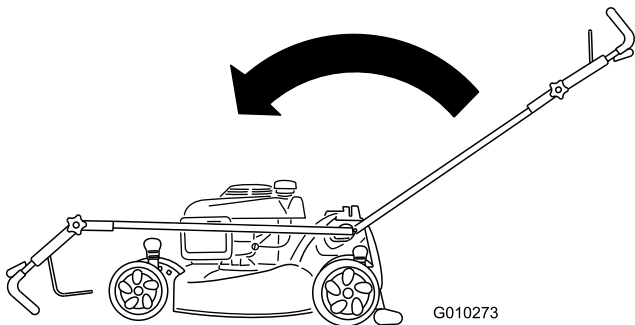

Figure 50
2. Move the handle all the way forward and loosen the upper handle knob (Figure 50).